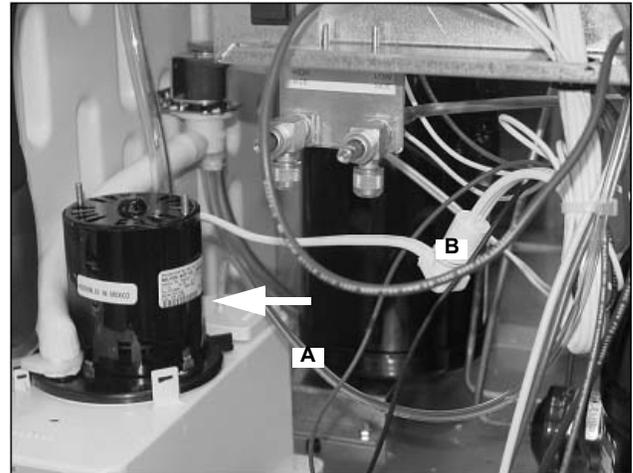

Figure 53.
56. Connect the pressure transducer tube (A) to the water pan.
Connect the water pump motor harness (B) (Figure 53).